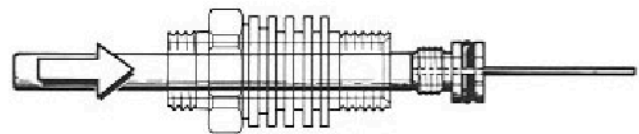

Figure 4
7. Using the Arctic In-line Adjustment Tool (PN 1094-46) or a medium flat blade screwdriver, begin to remove the crown (item 19) by turning the tool or screwdriver counterclockwise. Once the crown threads have disengaged from the inlet fitting (item 20), place the seat extractor tool (PN 1094-36) or a small wood dowel into the inlet fitting and gently dislodge the crown (see figure 4). Remove and discard the crown O-ring (item 18). Remove and discard the inlet fitting's external O-ring (item 21).